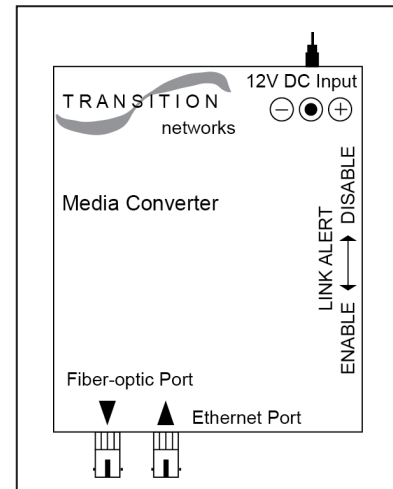

Figure 19: Fiber Media Converter
1. Disconnect the power and signal connections, referring to **Figure 19** for connector locations.